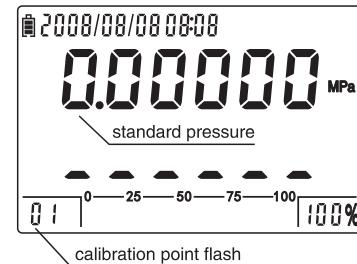

Figure 5-3-1: 1st point entrance
- (1) Press to enter into passport menu, input the password "2003" and press to enter into calibration menu.
- (2) Select and press to enter into the entrance interface. The **[01]** of left reading area is 1st calibration point, the user can select points by using .Please press to start calibration. (as figure 5-3-1)